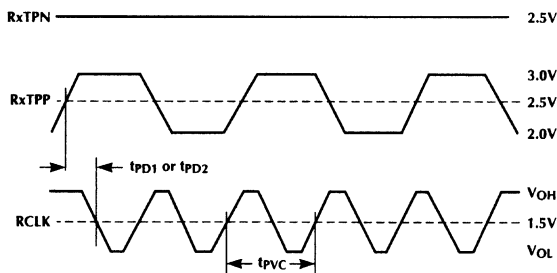

Figure 2. Phase Detector Gain Test.
- Note 10:** See Figure 2 for timing. With the circuit in phase-lock, inject  $I1 = +5\mu A$  and measure the propagation delay  $t_{PD1}$  between an RxTPP rising edge and the corresponding RxCLK falling edge. Make a second delay measurement  $t_{PD2}$  while injecting  $I2 = -5\mu A$ . Phase detector gain is given by  $K_d = (I2-I1)/(t_{PD1}-t_{PD2})$ .